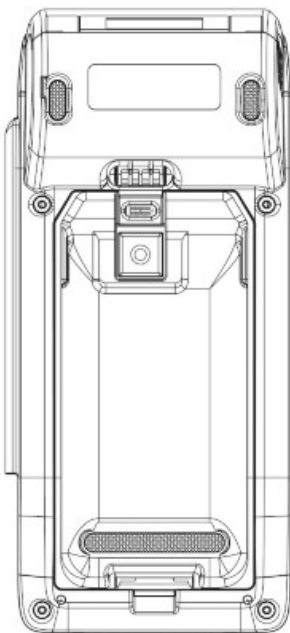

Figure 8
**STEP 1:** Push the battery latch to pull the battery from AT-100 as Figure 8.